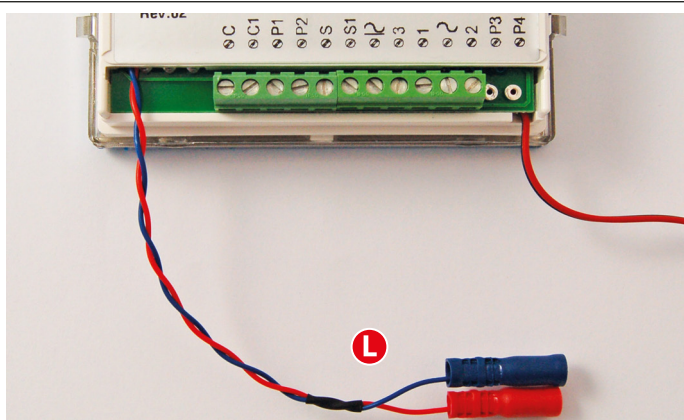

Fig. 16
15. Finally clip the front metal fascia back onto the back plastic. The **red/blue** female connector cable should now be trailing out of the bottom corner of the 4000 speaker module, as shown in **Fig.16, L**.